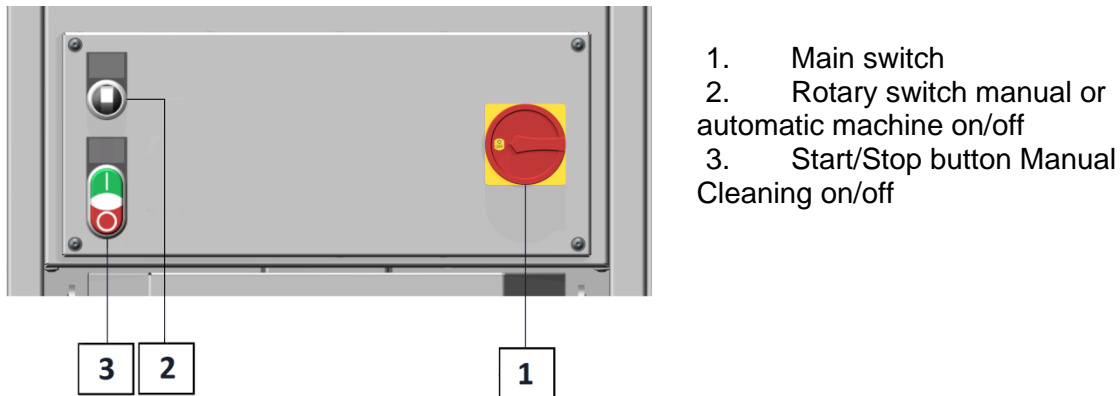

Figure 3: Controls on the machine
To turn on your V80C MINI 1.1 kW or 2.2 kW, put the main switch (Figure 3, pos. 1) on the machine to ON. To turn off (de-energise) your V80C MINI Automatic 1.1 kW or 2.2 kW, put the switch to OFF.
With this button (Figure 3, pos. 2) you manually start or stop the machine or the machine starts and stops automatically with the coupled machine.
With this button (Figure 3, pos. 3) you can start or stop manual cleaning.